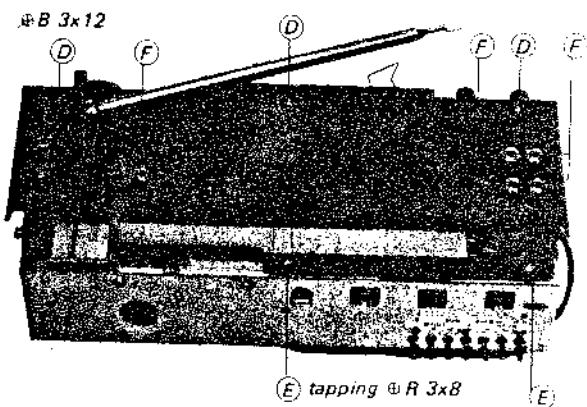

Fig. 2-2
2. Remove the three screws ($\oplus B\ 3\times 12$) marked (D), and the two tapping screws ($\oplus R\ 3\times 8$) marked (E) in Fig. 2-2.
3. Remove the five jack nuts marked (F) in Fig. 2-2.
4. Remove the rear cabinet in the direction shown by the arrow in Fig. 2-2.